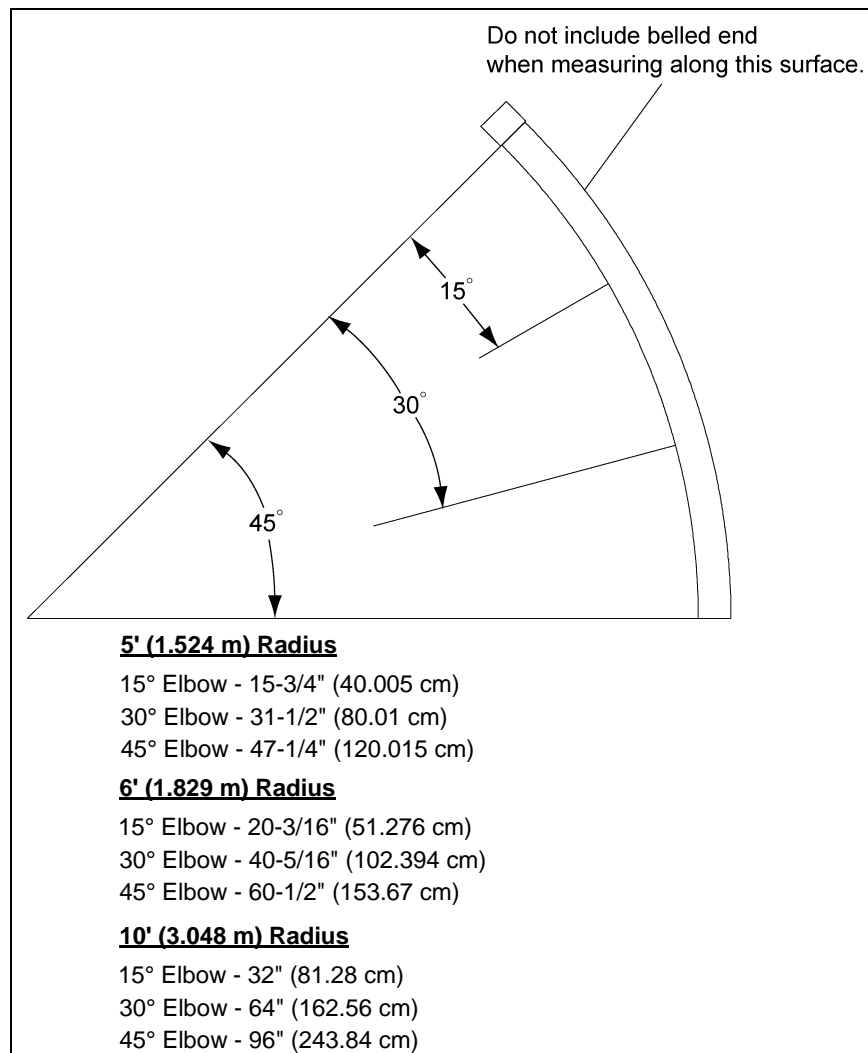

Figure 5K Cutting Chart for 45° Elbow
2. Slide the elbow tubing through the hole in the building. Establish and cut (if necessary) the elbow at the desired length to ensure that the auger tubing will be horizontal. See Figure 5K on Page 21 for proper cutting dimensions of the elbows at specific degree angles.